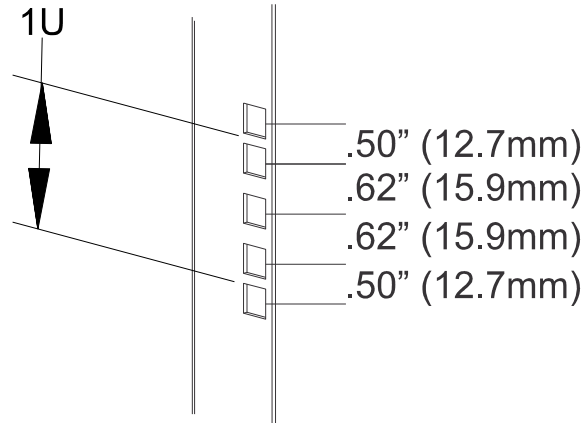

Figure 5-1 1 U Division on a Rack Post
1. Decide where the rack rails are to be mounted. We recommend marking the position where each rack rail assembly bracket is to be mounted. To optimize the spacing in the rack, it is recommended to select a “1U” increment on the racks hole pattern as the starting point. Some racks will have the increments marked, otherwise the start and stop location of a single rack unit can be determined by locating the .50” (12.7mm) spaces between mounting holes as seen in Figure 5-1.